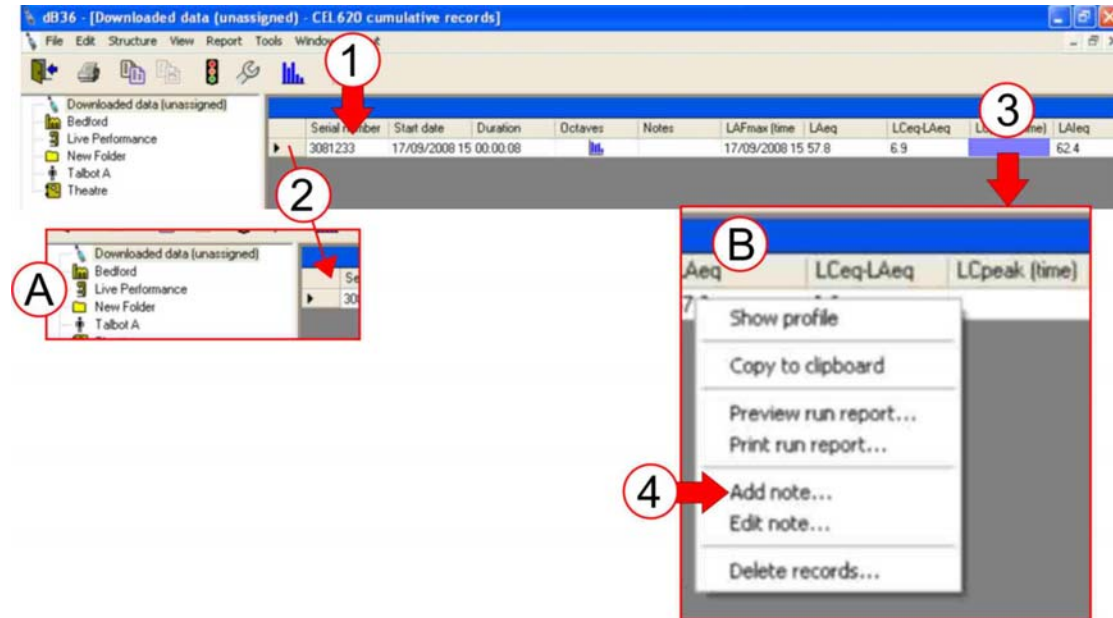

Figure 19 Cumulative Records
- D. The downloaded run is added to the Cumulative Records Screen (Refer to Figure 19 [1]).